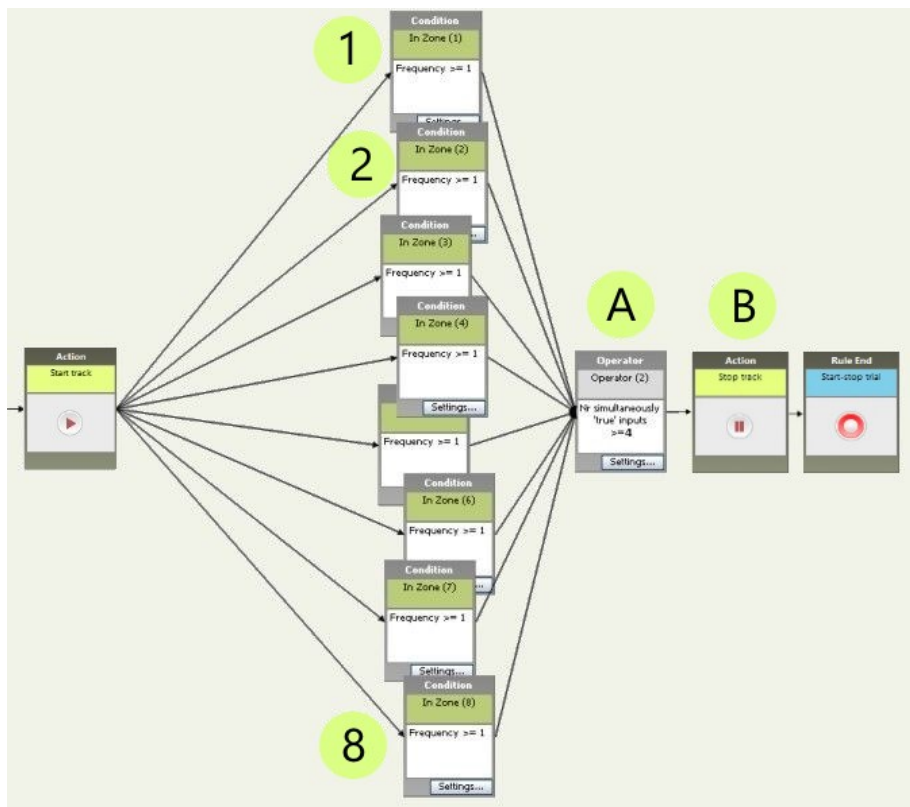

Figure 17 A Trial Control sequence for an eight-arm radial maze. The trial must stop when the animal has visited four of the arms at least once.
2. Connect the resulting eight condition boxes in parallel using the N of All operator (see Figure 17).